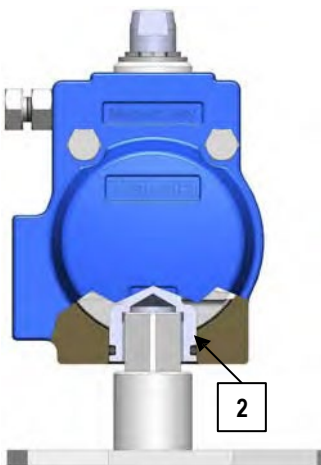
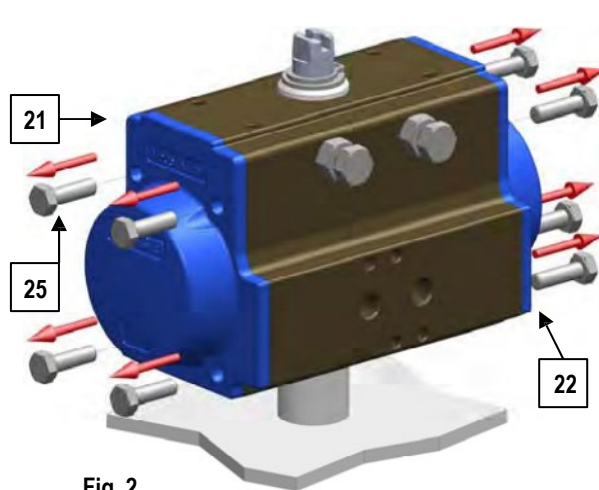

Fig. 1
Fig. 2
4. Place the actuator on a support with a square of the same size of the pinion (2) so as to easily execute the below listed operation (see Fig. 1).
5. Before disassembling the actuator **check** from the label on the body whether it is a double acting (DA) or spring return (SR) type.
6. For **DOUBLE ACTING ACTUATOR**: Unscrew in crossed sequence the screws (25) for fastening the end caps (21-22) (see Fig. 2).
For **SPRING RETURN ACTUATOR**: Unscrew **GRADUALLY** in crossed sequence the screws (25) for fastening the end caps (21-22) (see Fig. 2). Note: the screws are long enough to hold the springs even if extended.